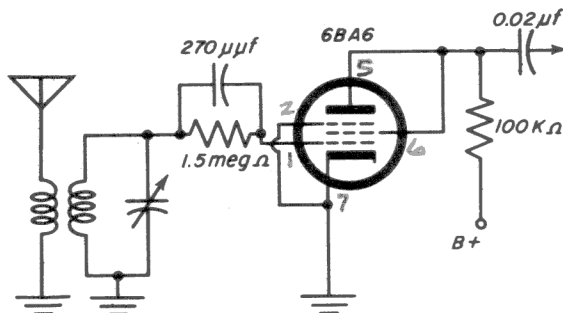

Fig. 27-9
Step 18. The circuit you have wired is shown in Fig. 27-9. Check your chassis against this schematic and make sure it is correct before you proceed.
Step 2. Measure the d-c voltages at the points called for in Table A, and compare them with the normal operating voltages given in the table. If there is a discrepancy of much more than 20%, find the trouble by checking against the schematic diagram of Fig. 27-9 before you proceed. Consult your basing diagram for the proper pin numbers.